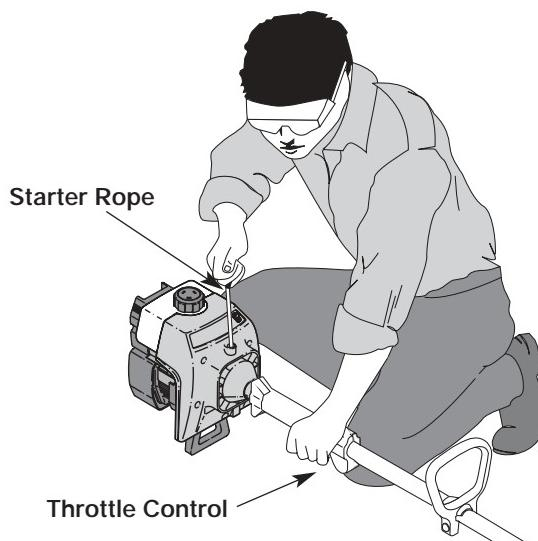

Figure 8
WARNING: Avoid accidental starting. Make sure you are in the starting position when pulling the starter rope. See Figure 8. To avoid serious injury, the operator and unit must be in a stable position while starting.
5. With the unit in the starting position (see Figure 8), squeeze the throttle control to the wide open (full throttle) position. Pull the starter rope briskly 5 times while still in the **FULL** choke (**A** |---|) position. If the engine attempts to run before the fifth pull, proceed to step 6.
7. Pull starter rope 1 to 3 times, briskly, to start the engine. See Figure 8.
1. Release your hand from the throttle control. See Figure 8. Allow the engine to cool down by idling.